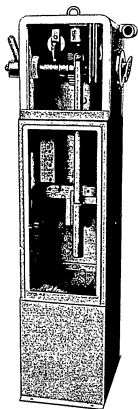

Fig. 21 - D. C. Solenoid Control.
3) D. C. solenoid control utilizes the magnetic force exerted by a large solenoid on a moving nucleus (fig. 21). The power absorbed by this type of control varies from 5 to 15 kW according to circuit breaker capacity. Release, to open, can be effected, if desired, by hand through a trip lever.